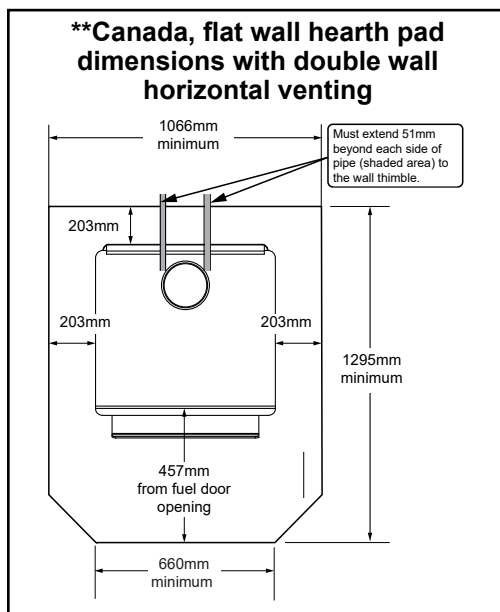

Figure 9.2 - \*\*These dimensions will vary depending installation.
**In Canada**, similar floor protection must be provided 18 inches (457mm) in front and 8 inches (203mm) from the sides and rear of the appliance unless the hearth pad is placed against the wall (**Figure 9.2**). Then the clearance may be reduced using double wall pipe and the Clearance to Combustibles table listed on page 10.
**\*Exception:** Non-combustible floor protector must extend beneath the flue pipe when installed with horizontal venting and extend 2 inches (51mm) beyond each side (**See Figure 9.2**).